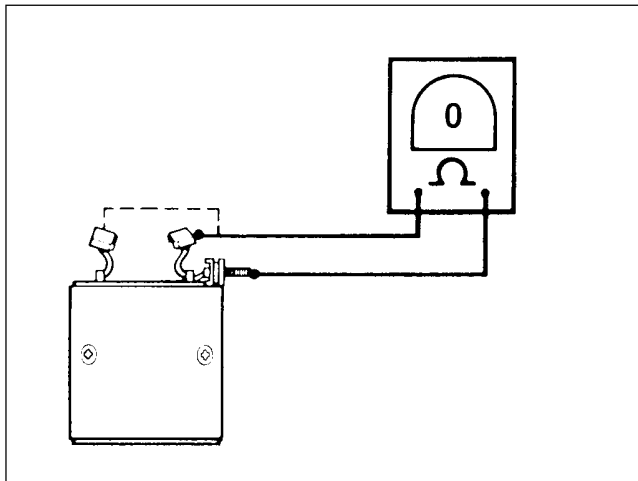

Figure 5-15. Open Field Test
14. See Figure 5-15. Check for OPEN FIELD WINDING with an ohmmeter or continuity tester. Touch one probe to the field wire, and the other probe to each of the brushes attached to the field coils. There should be continuity. If there is no continuity at either brush, the field winding(s) are open and the field frame should be replaced.